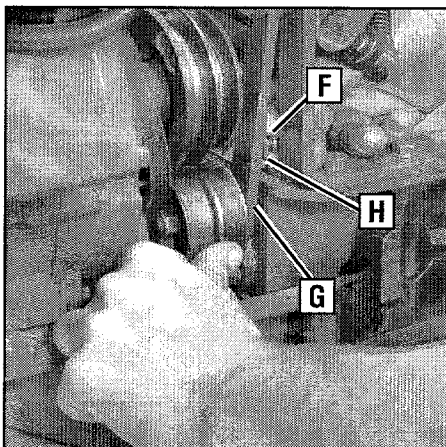

Figure 5-11: Remove clevis pin from outer hole in forward adjustable link and move to inner hole in link.
6. On the left side of the unit (as viewed from operator’s position) remove the hairpin cotter from the clevis pin (F, Figure 5-11) that connects the forward idler arm (G) to the forward adjustable link (H). Push inward on the forward idler arm (G) and remove the clevis pin (F).
7. There are two holes in the forward adjustable link (H, Figure 5-11). Push inward on the forward idler arm (G) and install the clevis pin (F) through the inner hole in the forward adjustable link (H) and out through the single hole in the forward idler arm (G). Secure the clevis pin with the hairpin cotter. NOTE: While pushing inward on the forward idler arm, be sure that the forward drive belt is moved off to the right side of the tiller. This creates more room to install the clevis pin when the forward idler arm is pushed inward.